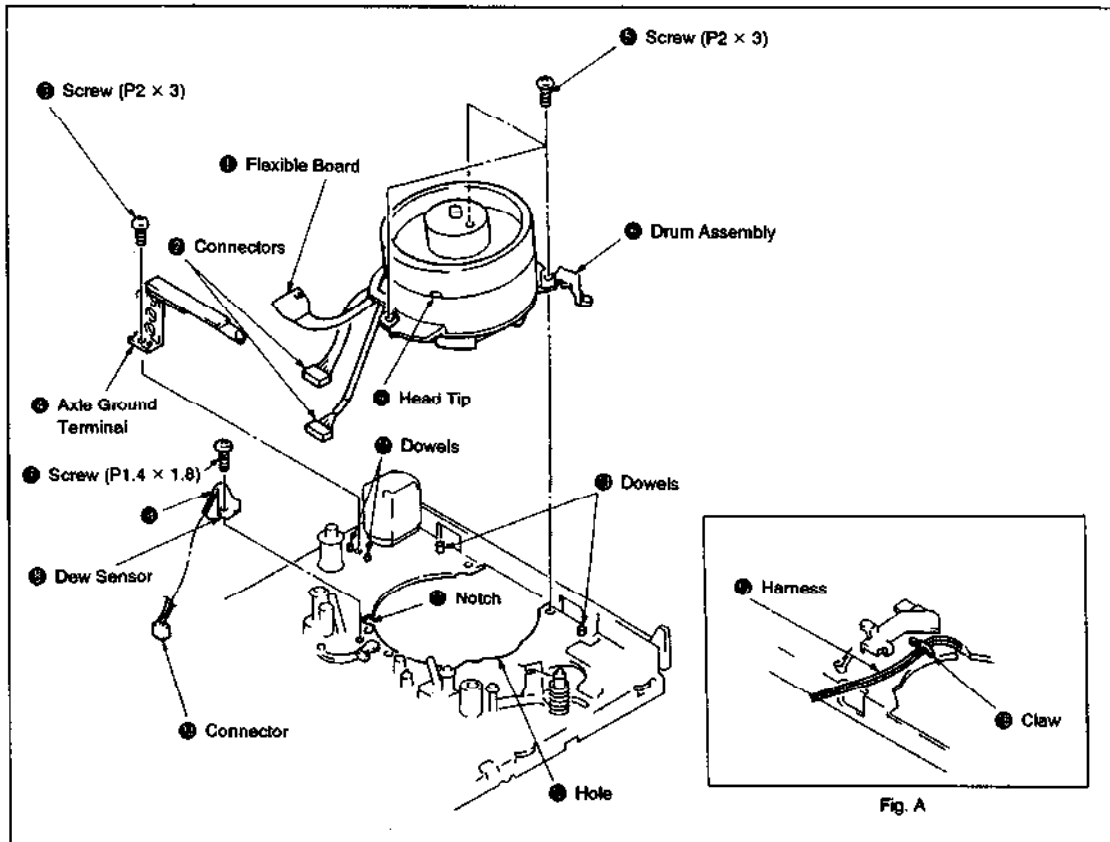

Fig. 3-14.
1. Removal (See Fig. 3-14.)
- When removing the drum assembly ⑥ from the mechanism chassis, take care not to cut the flexible board ① or the harness.
- Take care not to touch the head tip ⑩.
2. Installation (See Fig. 3-14.)